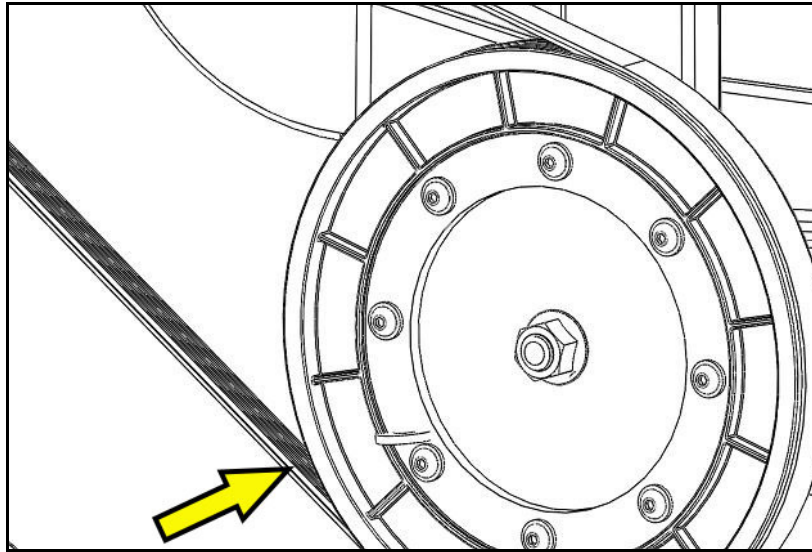

Fig. 12
12. With the shroud removed, walk the belt off the pulley (Fig. 12). This will loosen tension on the idler pulley.